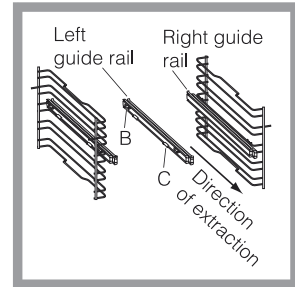

Figure 1.
- Choose which shelf to use with the telescopic runner. Pay attention to the direction in which the runner is to be extracted, position joint 'B' and joint 'C' on the frame (see Fig.1).